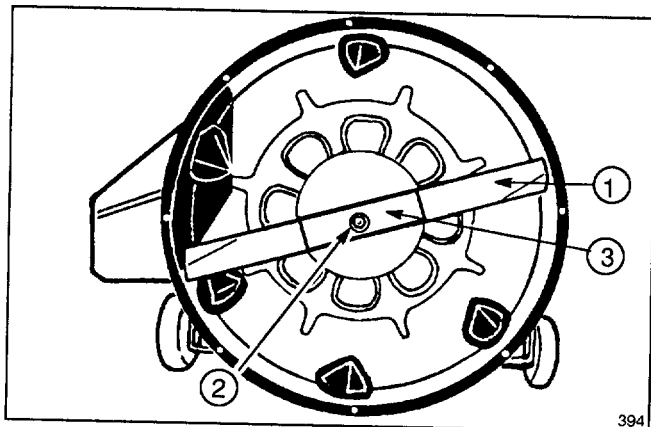

Figure 24
6. Grasp end of blade using a rag or thickly padded glove; then remove blade bolt, washer, blade stiffener and blade (Fig. 24).
9. In sequence, install blade, blade stiffener, washer and blade bolt (Fig. 24). Tighten blade bolt to 45-60 ft-lb (61-81 N·m).
6. Since rider is tipped on end, check condition of blade (Fig. 24).